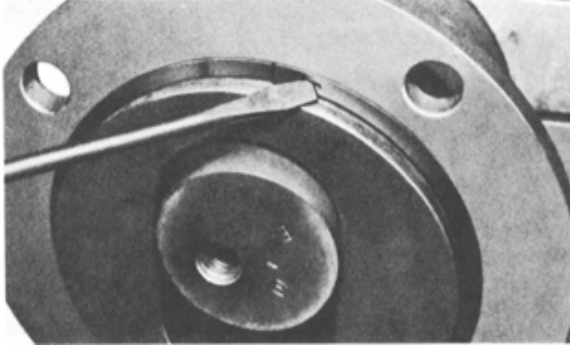

Figure 4-3. Typical Retaining Ring Removal
2. Remove discharge flange (1400) by unbolting from stator clamp ring (1800) and remove stator gasket (1200). Remove stator retaining ring (R) and stator clamp ring (1800) from stator (6500).
4. Unbolt stator clamp ring (1800) from suction housing, remove stator from rotor, turning stator while removing will ease disassembly. Use a screwdriver tip to carefully remove the stator retaining ring. Remove stator clamp ring (1800) from stator (6500). See Figure 4-3 for the typical retaining ring removal procedure.
1. With snap ring pliers, remove the rotor head snap ring (J), sliding it down over the rotor. Some models may use spiral type rings (see Figure 4-3).
6. Remove head O-ring (K) from rotor head.
1. Remove the drive shaft head snap ring (J) sliding it back towards the bearing housing. Some models may have spiral type rings (see Figure 4-3).